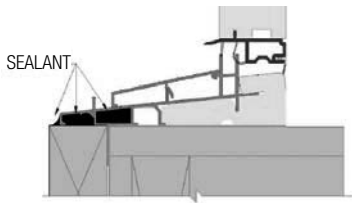

FIG. 16: IN-SWING DOOR SILL
- B) For in-swing patio doors: Apply silicone to seal each end of the sill cavity that protrudes out from the brickmould, including handicap sill. (Fig. 16)